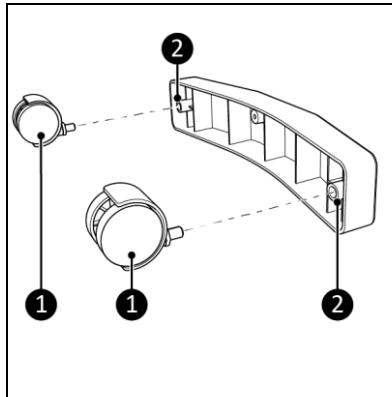

Figure 3
- Click the wheels (Figure 3, pos. 1) into the pedestals (Figure 3, pos. 2).